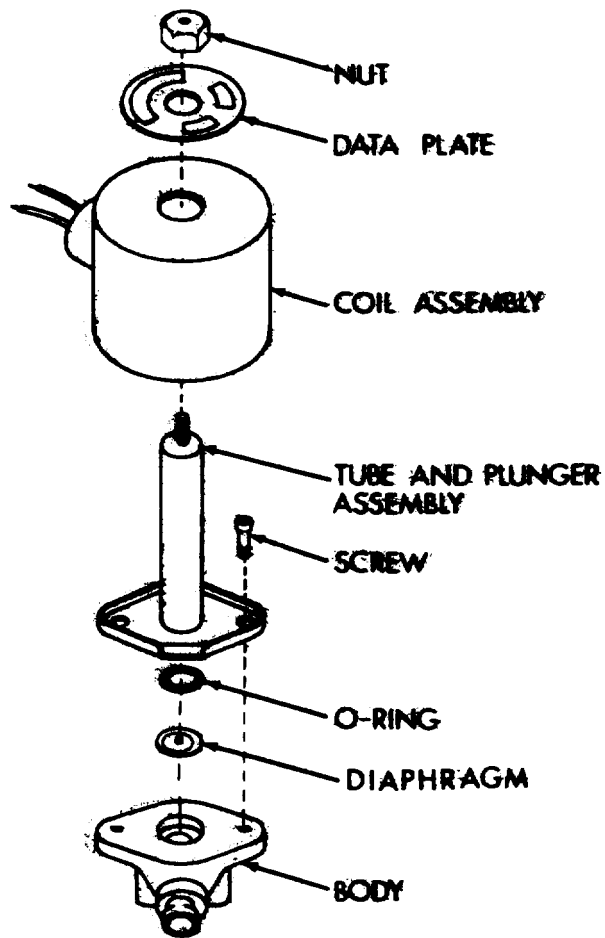

Figure 5-7. Typical Solenoid valve
5.46. Description (see figure 5-7).
a. *Removal* Remove the coil assembly in accordance with the following instructions: (See figure 5-7).
(1) Disconnect wiring harness plug from receptacle.
(2) Remove nut and data plate from top of coil assembly, and lift off coil assembly.